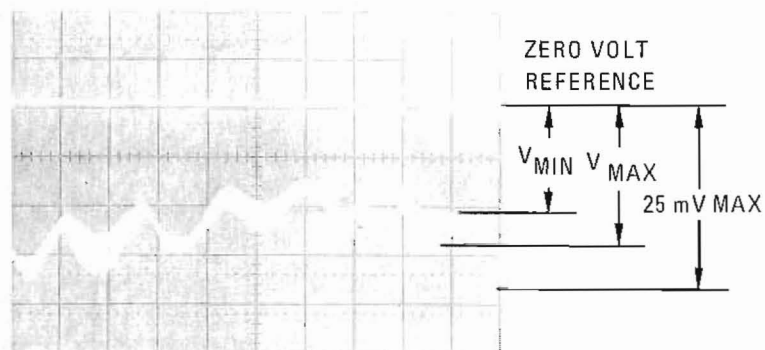

Figure 4-9. Typical Pattern of a Swept SWR Measurement.
e. Display swept power output trace on oscilloscope (Figure 4-9). Select several points on trace and calculate V_{MAX}/V_{MIN} .